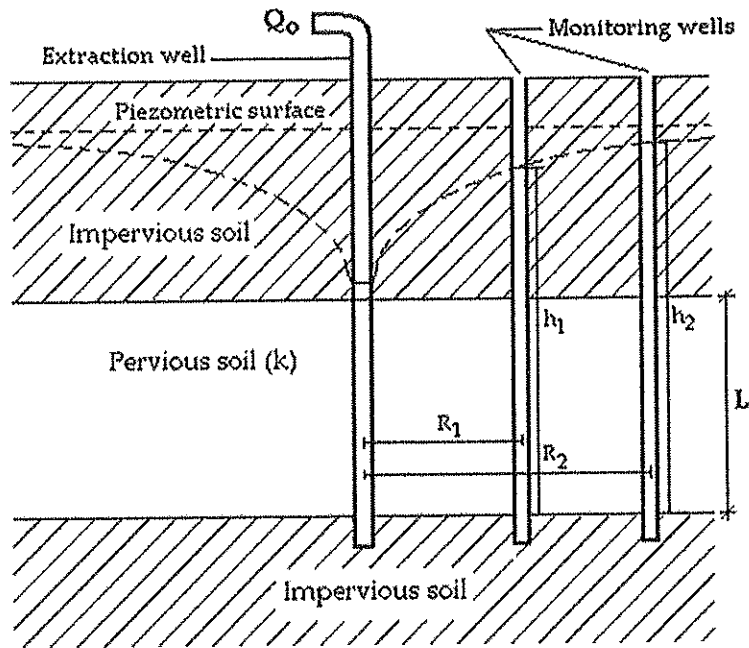

Fig. B4
4. Fig. B4 shows a steady state pumping test where water is extracted from a confined aquifer.
- b. Compare the aquifer conditions of the pumping well shown in Fig. B4 with the aquifer conditions of open dug wells commonly used in urban and peri-urban households. (3 points)
- d. Explain the term "piezometric surface" and the relevance of the two piezometric surfaces shown in Fig. B4. (4 points)
- e. The equation  $k = \frac{Q_0}{2\pi L(h_2 - h_1)} \ln \frac{r_2}{r_1}$  models the situation shown in Fig. B4. Define the terms given in this equation. Explain how they are determined during the test. (4 points)